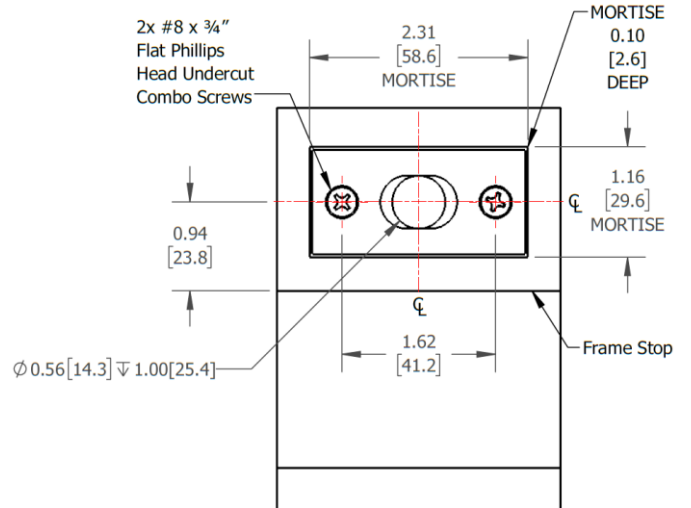

Figure 3: Universal Automatic Flush Bolt Frame/Floor Strike
8. Using Figure 3 and 2ea of the #8 x 3/4" Flat Philipps Head Undercut Combo Screws, install the Frame/Floor Strike